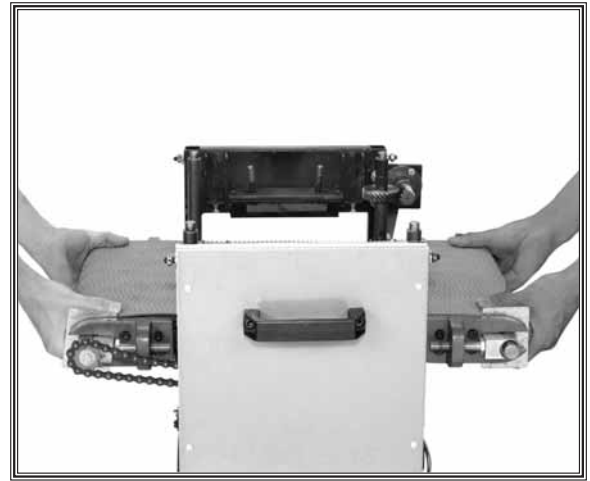

Figure 51. Lifting the table off safely.
17. With the help of an assistant, carefully lift the table off the drum sander cabinet, as shown in **Figure 51**.